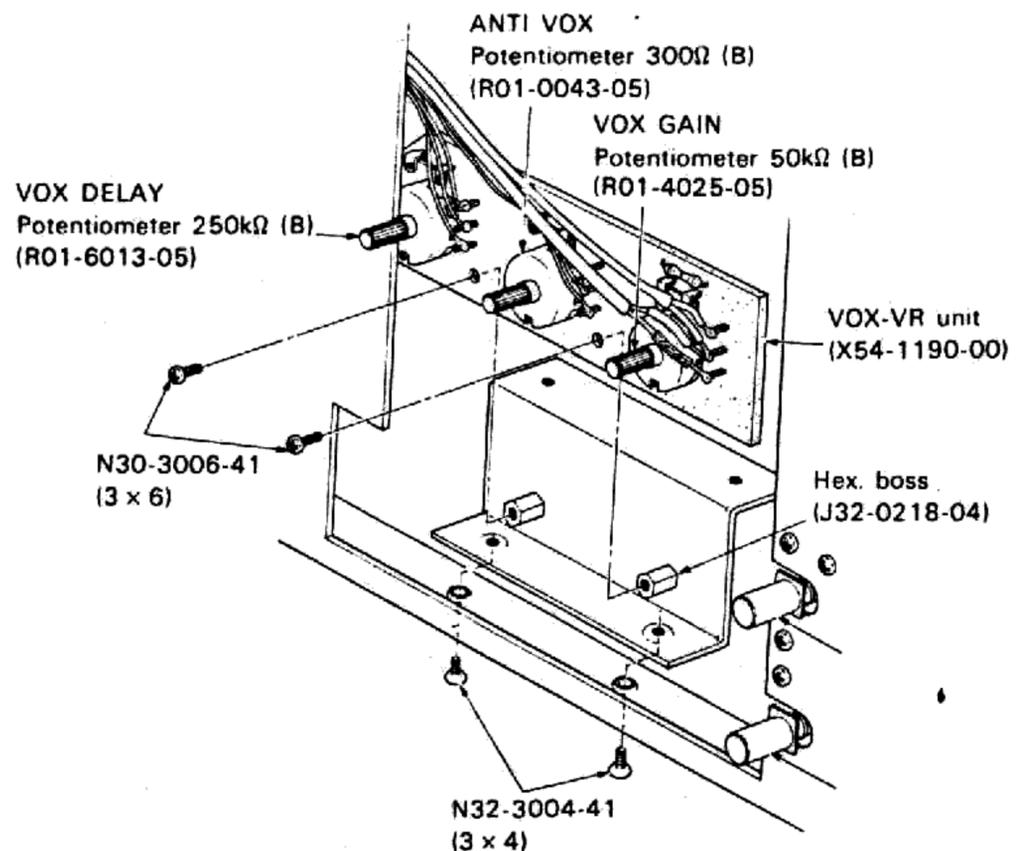

Fig. 17(a) Removing the VOX · VR unit
- 3) Remove from the subpanel the chassis, on which the VOX/VR unit is mounted, according to Fig. 17 and detach the unit.